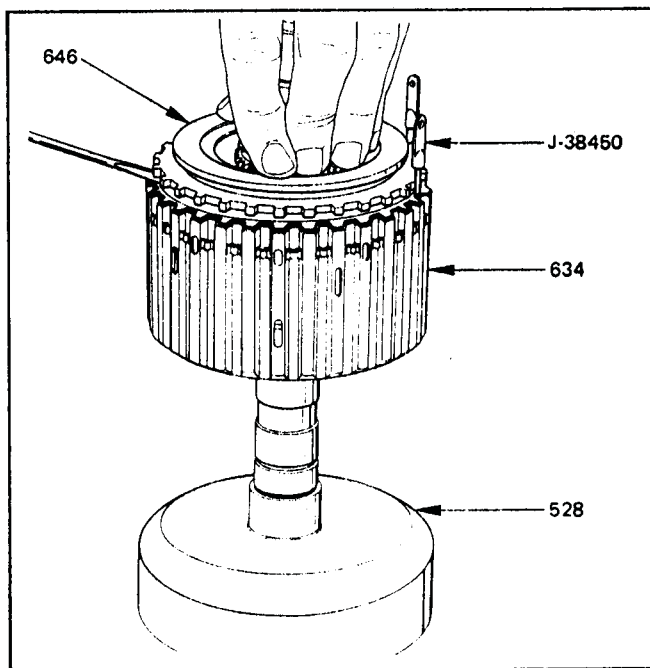

Figure 77
21. Install a tool blade at each end of the snap ring, between the snap ring and the 3rd clutch housing, as shown in Figure 77.
22. Compress the snap ring with a screwdriver opposite the tool blades while pushing down on the outer sprag race as shown in Figure 77.